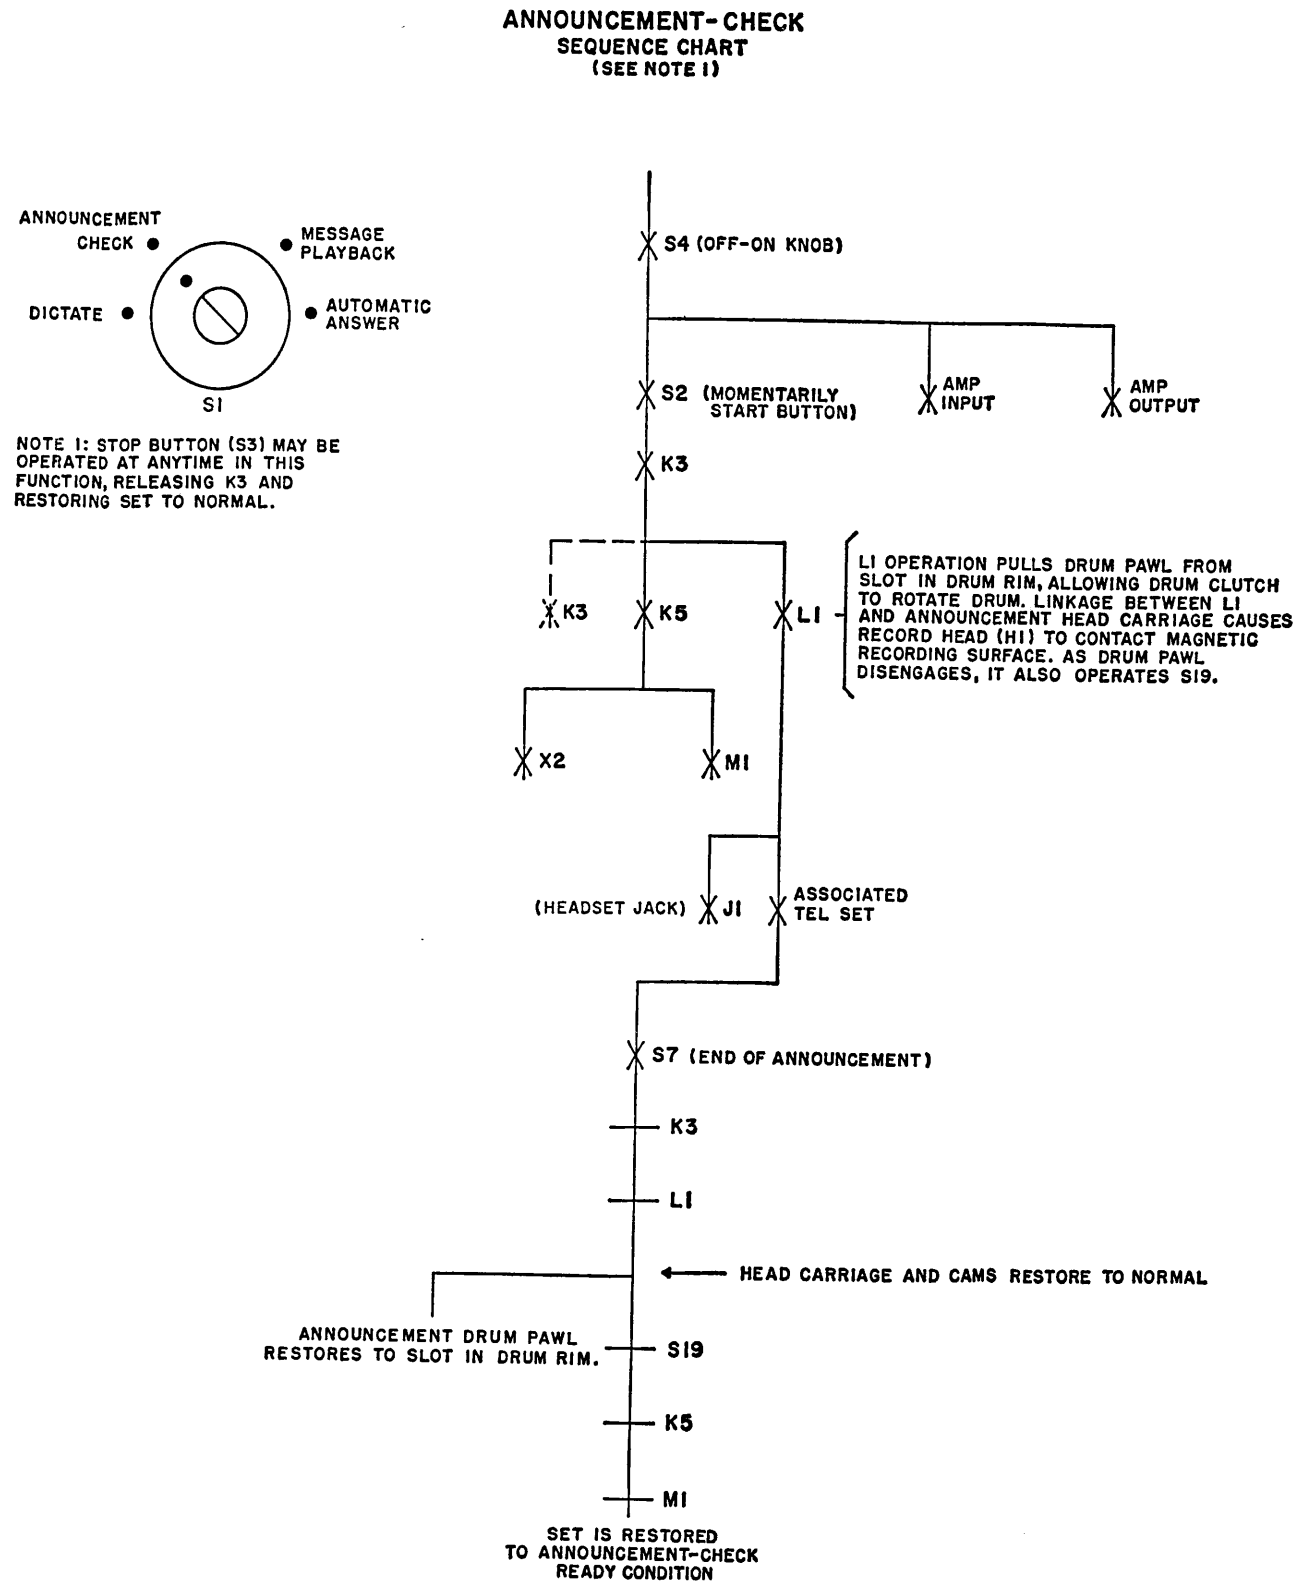

Fig. 3
- Announcement Check (Fig. 3 and 4)
Fig. 3 and 4